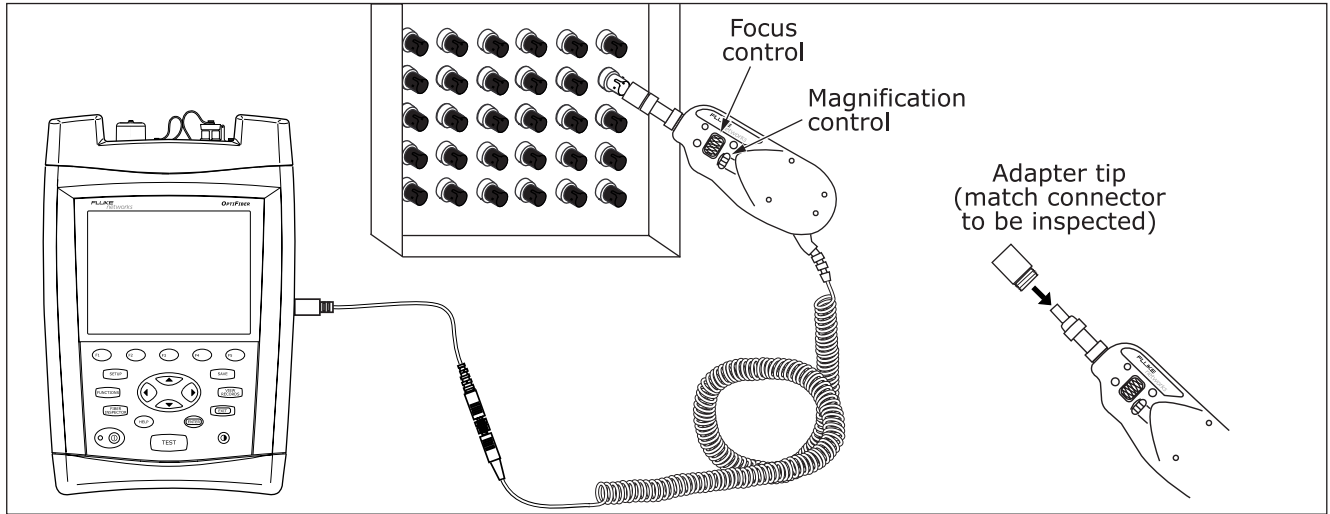

Figure 21. Using the FiberInspector Probe
- 6 Place the probe on the fiber connector. Turn the larger ring on the probe to focus the image. Turn the smaller ring to change magnification. Refer to Figure 21.